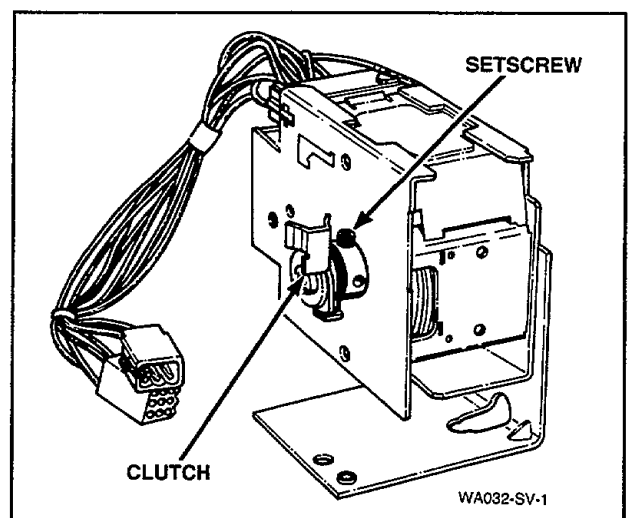

Figure 9
- Loosen setscrew holding clutch to timer shaft, *Figure 9*.
- Remove two screws from bottom edge of front panel, *Figure 9*.